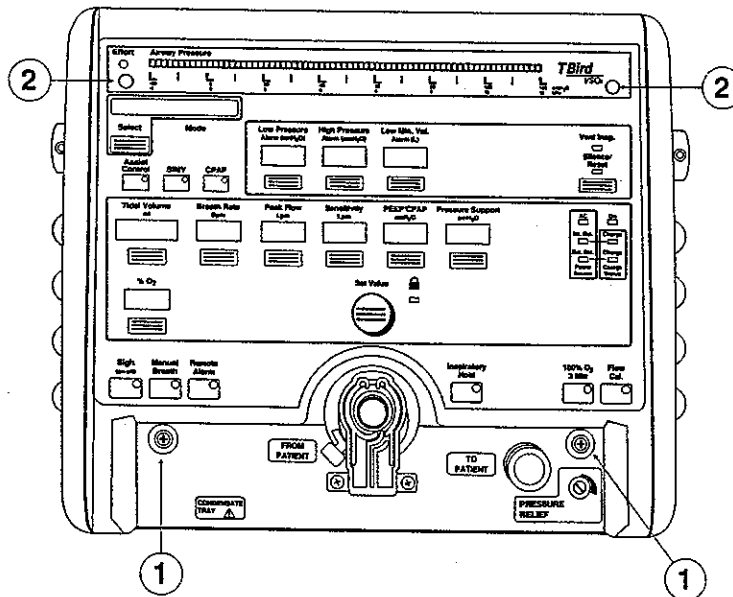

Figure 5-10. Front Panel Encoder Removal
- 2 Referring to Figure 5-10 Ref. 1, remove the two (2) screws that secure the front panel assembly to the ventilator base and rock the front panel forward.
- b) Remove the two (2) screws from the upper corners of the control panel (Refer to Figure 5-10 Ref. 2).
- b) Remove the two (2) screws from the lower part of the front panel (Refer to Figure 5-10 Ref. 1) and remove the front panel from the ventilator.